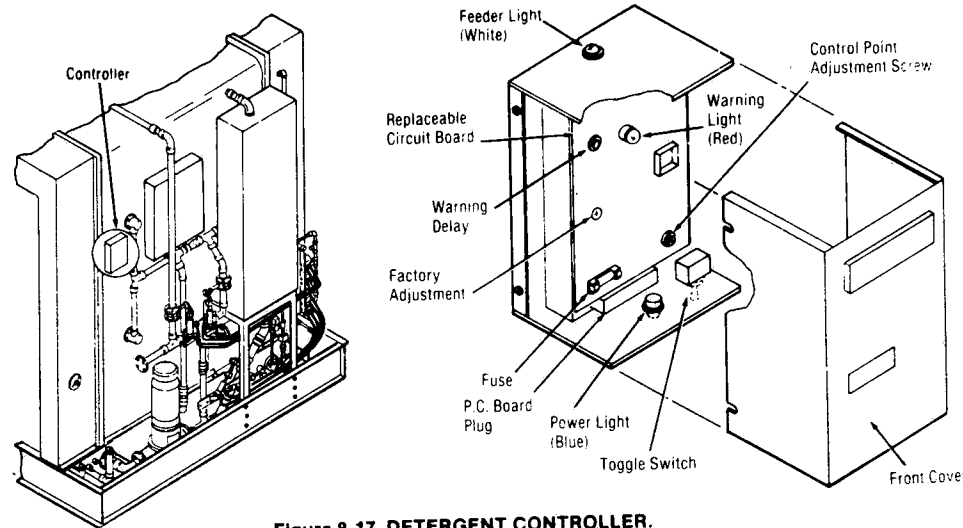

Figure 8-17. DETERGENT CONTROLLER.
1. The detergent controller is located just above terminal box TB-4. Remove the front cover from the controller. This will expose, among other internal components, the warning delay and control point adjustment screws (see Fig. 8-17). These two components are the only ones requiring adjustment. The red warning light and the white feeder and blue power lights are used to indicate certain conditions which occur during and after adjustment and will be described later in this procedure. The toggle switch turns the controller on and off. This switch should be in the ON position.